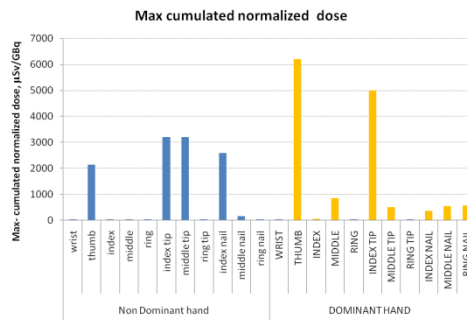

Figure 7: Maximum cumulated normalized dose. Example: Tc99m administration, database June2010
- g. Plot of the cumulated maximum dose considering hands together. In the x-axis the measuring positions (22) and in the y-axis the maximum cumulated normalized dose. (only add the dose value whenever it is the maximum of the 22 measuring points). See example in Figure 7.